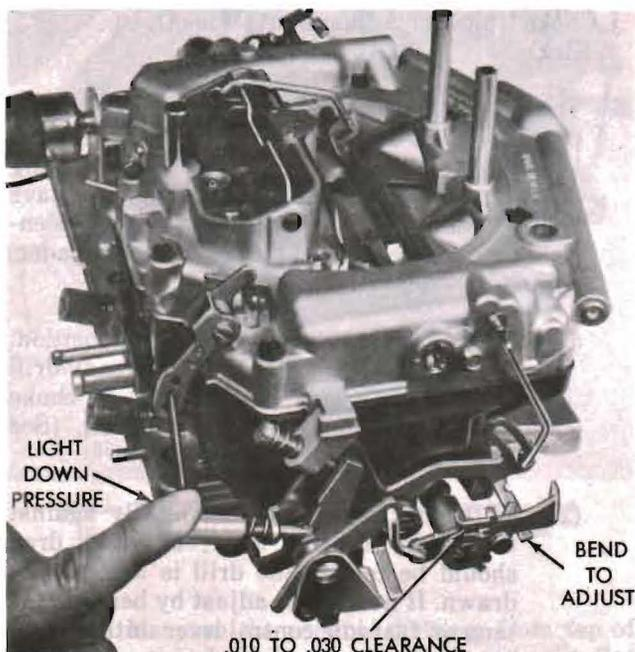

Figure 30. Adjusting Secondary Throttle Lock-in—Slide 1194
- (1) Move the choke control lever to the open choke position.
- (2) Measure clearance between lock-in lever and stop, which should be between .010 and .030 inch. (See figure 30.)